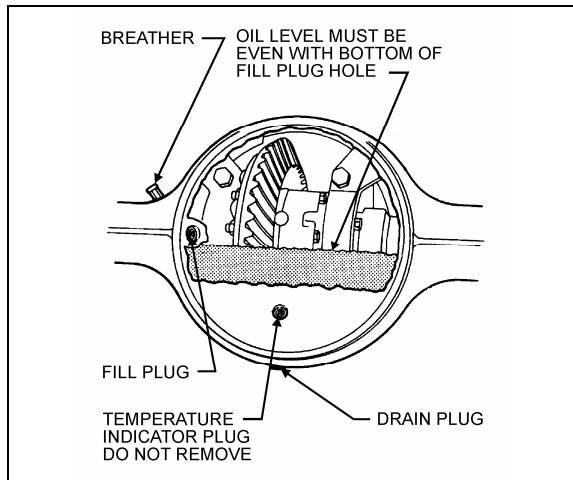

FIGURE 4: DIFFERENTIAL HOUSING BOWL
Use Multigrade gear oil MIL-L-2105-D. Use the 75W90-gear oil for northern climates and the 80W140 for southern climates. In extreme conditions, or for better performance, fill with synthetic gear oil. Check oil level and add (if necessary) every 6,250 miles (10 000 km) or twice a year, whichever comes first (Fig. 4).
3. Clean the area around the fill plug. Remove the fill plug from the differential axle housing bowl (Fig. 4).